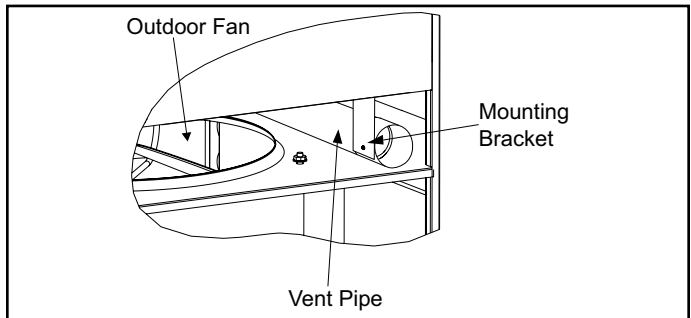

Figure 5. Locating Vent Pipe and Extension
- The vent pipe and vent pipe extension is located to the right of the outdoor fan (see Figure 5).